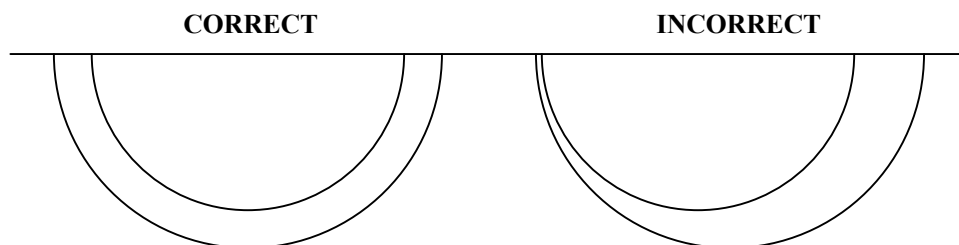

FIGURE 23
2. Check the alignment of the unit. After cleaning the unit, always check the alignment of the punch and die section. To check the alignment, insert the punch and holder, without the springs, into the housing and check the gap. SEE FIGURE 23 BELOW.